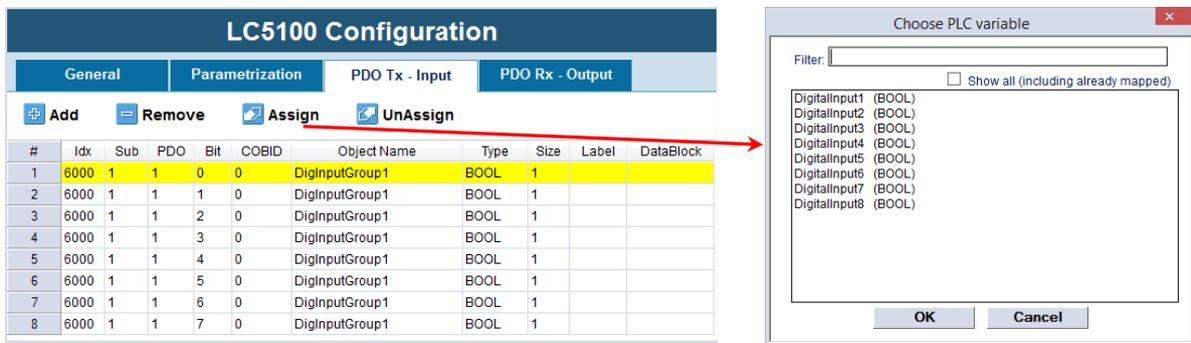

Fig. 4-12: Digital Input variables assign example
- The default configuration of LC5100 is composed from 8 digital input and 8 digital output. The object name items are not PLC variables and cannot be written or read. It is necessary to assign them to PLC global variables. As shown in Fig. 4-12 the global variable can be assigned thanks to "Assign" button. The window shows all the unassigned global PLC variables.